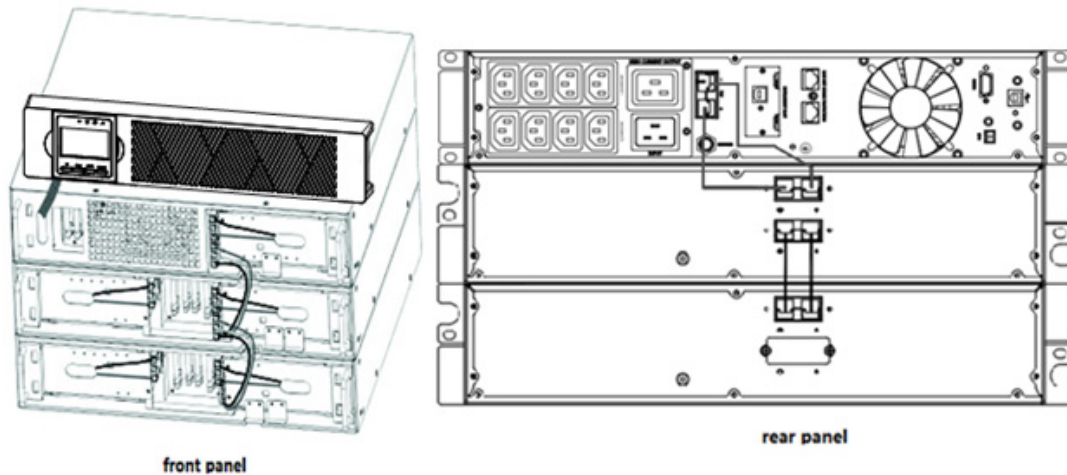

Figure 10: Typical EBP installation
c) For the bottom (or only) EBP, remove the EBP cable knockout on the top of the EBP front cover. See Figure 10 for the location of the top EBP cable knockout.
d) If you are installing more than one EBP, for each additional EBP remove the EBP cable knockout on the top and bottom of the EBP front cover. See Figure 10 for the location of the EBP cable knockouts.
- e) Plug the EBP cable(s) into the battery connector(s) as shown in Figure 10. Up to four EBPS may be connected to the UPS. Connect black to black. Press the connector tightly together to ensure a proper connection.